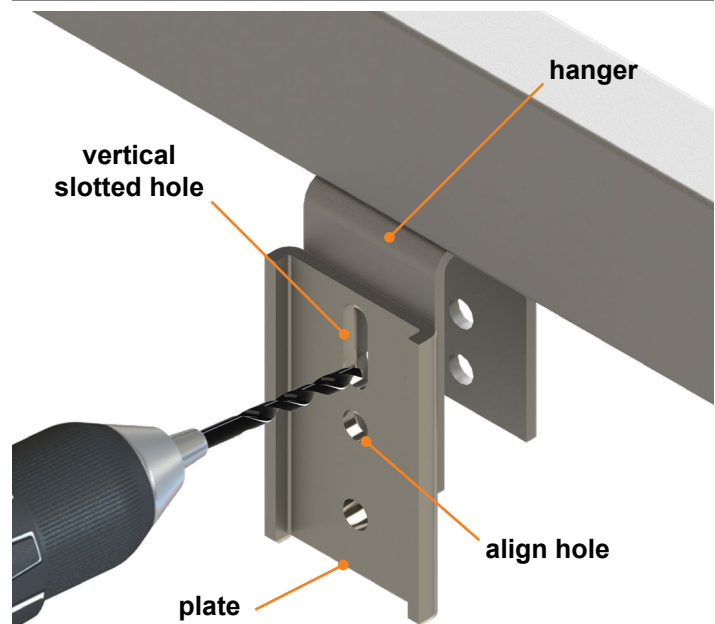

Fig.2
6. Place a hanger plate on the outside of one of the hangers. Align the center hole of the plate with the bottom hole of the hanger (**Fig. 2**).
9. Use a $\frac{1}{4}$ " drill bit to drill a pilot hole. Drill through the vertical $\frac{9}{16}$ " x $1 \frac{5}{8}$ " slotted area into the hanger (**Fig. 2**).